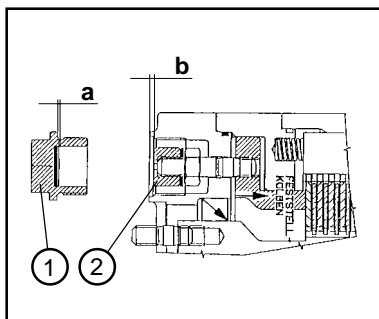

Figure 8-34
- (5) Determine the play ( $l = b - a$ ) (Figure 8-34). To do so, determine gap "a" (8-34/a) between the stop discs and the stud end of the screw plug and gap "b" (8-34/b) between the sleeve and the sunk face of the housing.